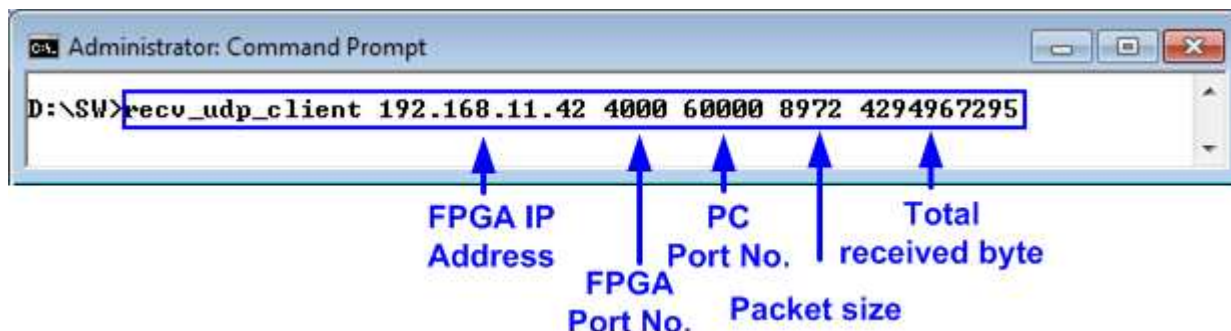

Figure 4-8 "recv_udp_client" command with jumbo frame
- Open "command prompt" on PC, and run "recv_udp_client" test application by using command as shown in Figure 4-8. Parameter inputs are same as non-jumbo frame except packet size which is set to 8972 instead of 1472.